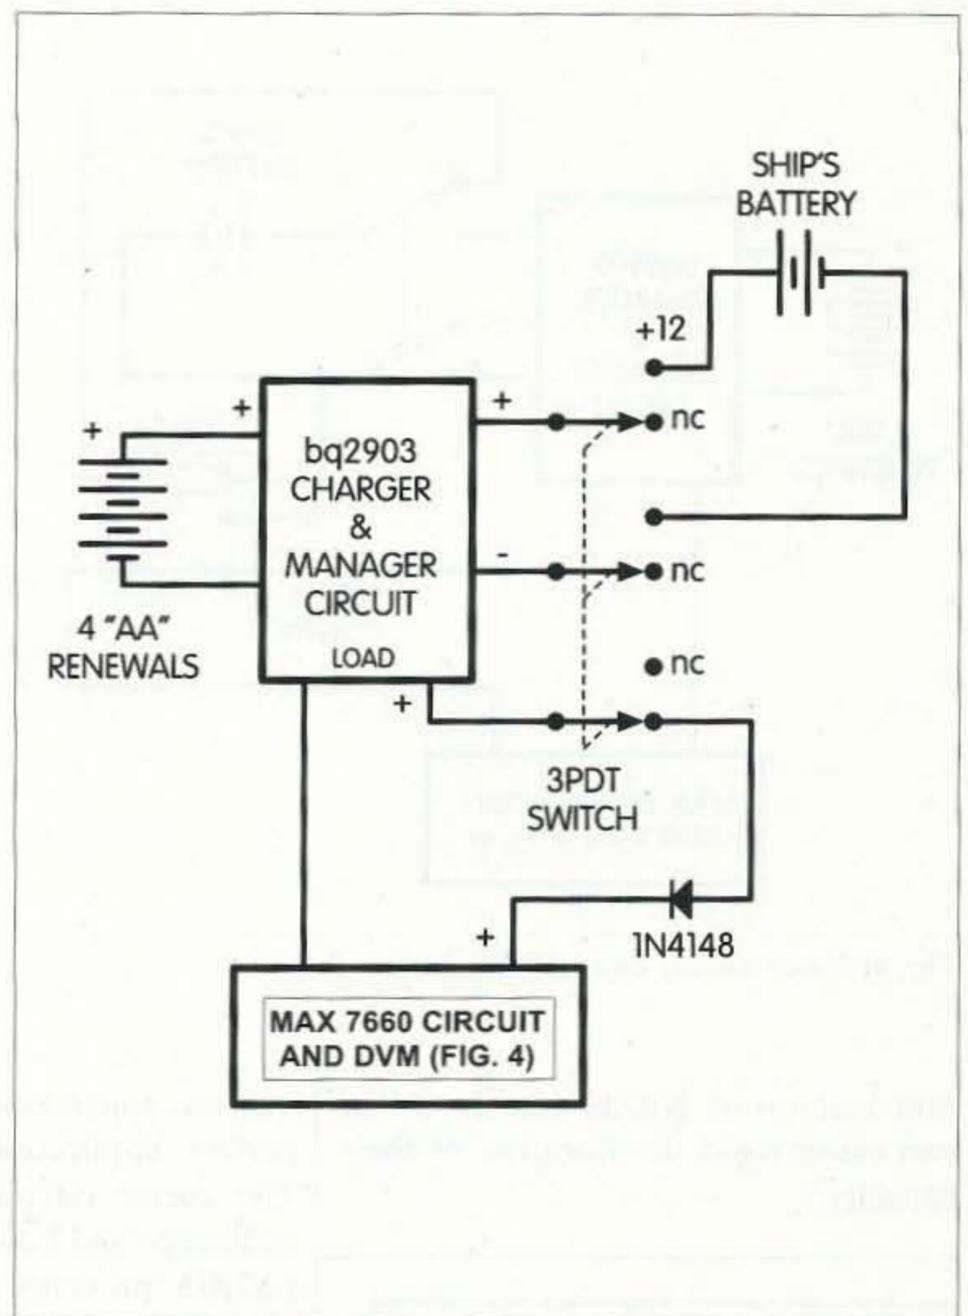
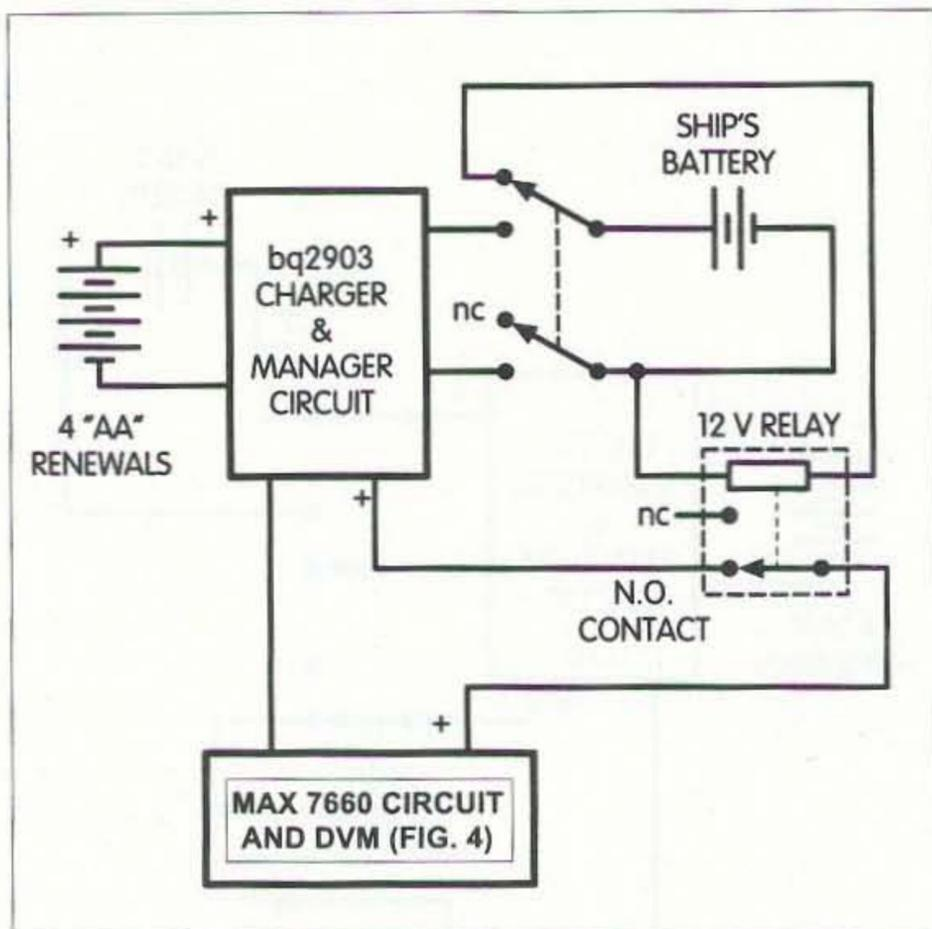

Fig. 5. Powering the DVM with rechargeable alkaline batteries, using a 3PDT switch.
Fig. 6. Using a relay and DPDT switch.
The circuit for this is a little more complicated than the NiCd circuit, but I had a PC board and parts from that earlier project, which made it easy to build, and the advantages made it worth the extra space. Fig. 5 shows my circuit. When using rechargeable alkaline batteries, it is a good idea to include a diode since these batteries have a higher voltage than NiCds and four of them could cause the voltage to exceed the maximum allowable for the meter.
One way used a three-pole double-throw switch as shown in Fig. 5. This is the easiest way if you have such a switch around. If you do not, a DPDT switch and relay will work as shown in Fig. 6. Either a normally open (NO) or normally closed (NC) relay contact will do, depending upon how you want the circuit to work. With NC, the meter will run with no external 12 V source (charging circuit). This would work well for a circuit you want to make portable and plug into the 12 V charging source. For the boat, where my meter would be permanently mounted, I felt that a NO relay would offer the advantage that if I disconnected the ship's batteries (which I do when I store the boat), the meter would be turned off and would not run down the alkaline battery.